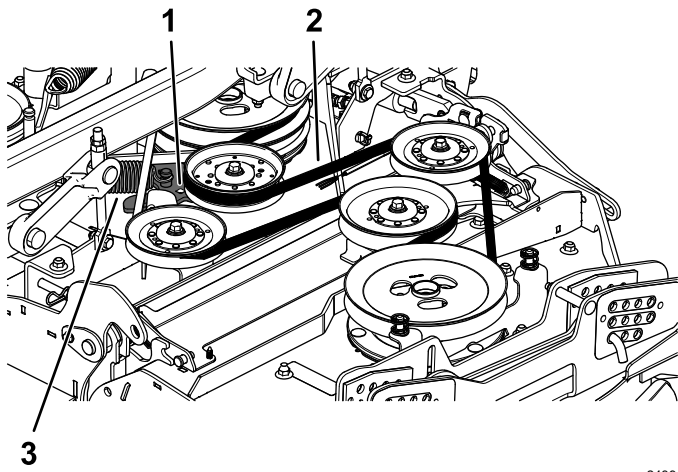

Figure 59
- Using a ratchet in the square hole in the idler arm, rotate the idler arm rearward to remove tension on the idler spring (Figure 59).
- Remove the belt from the mower deck pulleys (Figure 59).